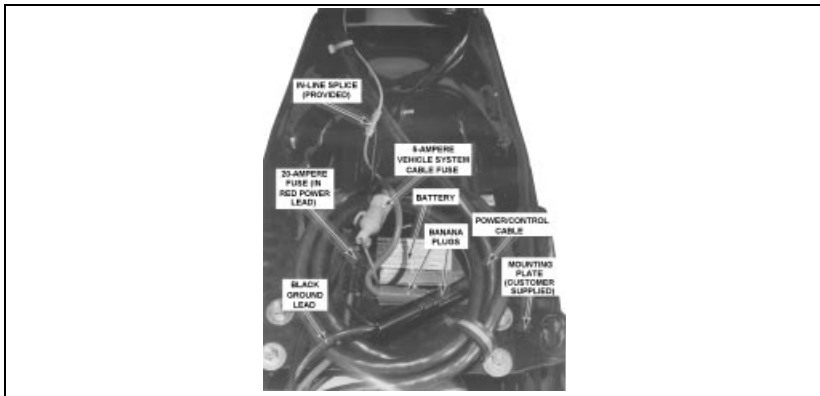

Figure 10. Under Seat Cable Installation
Any extra length of the power/control cable can be coiled under the motorcycle seat and secured to prevent interference with the operation of the motorcycle. See Figure 10.
**Installation Notes:** Figure 10 shows the use of a customer- fabricated, under-seat mounting plate. This mounting plate provides mounting holes and slots for securing connectors, fuses, and cables on some Harley-Davidson motorcycles (such as model FXRP) . The mounting plate is especially helpful for large installations.
In addition, banana plugs may be installed in the power cables as shown in Figure 10 to provide for quick connections to a battery charger, if desired.